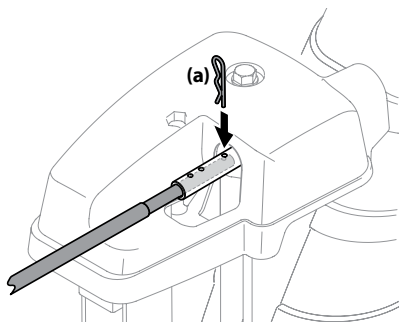

Figure 3-11
- Remove cotter pin (a) from either of the holes furthest from the chute assembly on chute rotation assembly. See Figure 3-11.
- Push in chute control rod until the hole in it lines up with the third hole in chute rotation assembly. See Figure 3-11.
- Reinsert cotter pin (a) through this hole and chute control rod as shown in Figure 3-11.